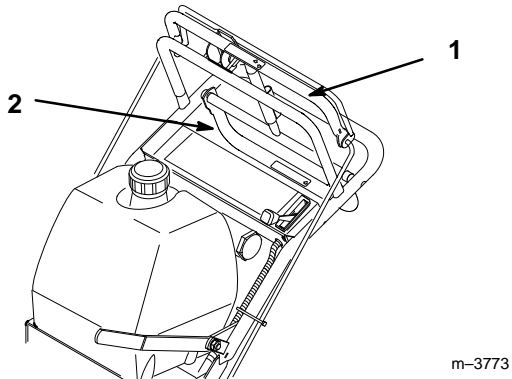

Figure 16
3. Slowly press on the upper control bar to move forward (Fig. 16).
To go straight, apply equal pressure to both ends of the upper control bar (Fig. 16).
To turn, release pressure on the upper control bar side toward the direction you want to turn (Fig. 16).
3. Slowly pull on the lower control bar to move rearward (Fig. 16).